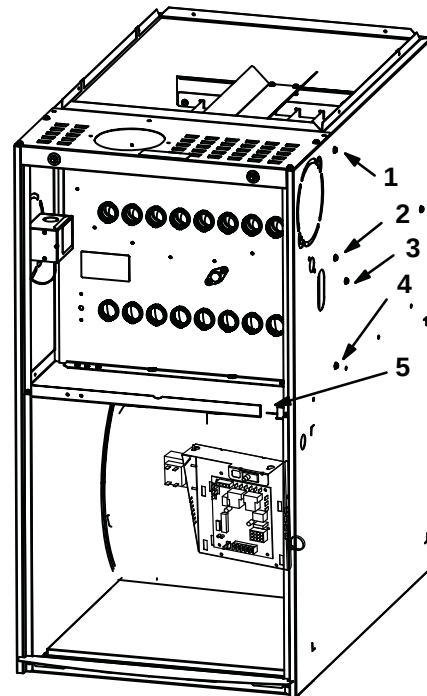

Figure 23. Remove 5 screws if necessary (either side of cabinet)
8. Remove heat exchanger. It may be necessary to spread cabinet side to allow more room. If so, remove five screws from the left side or right side of cabinet. See **Figure 23**.